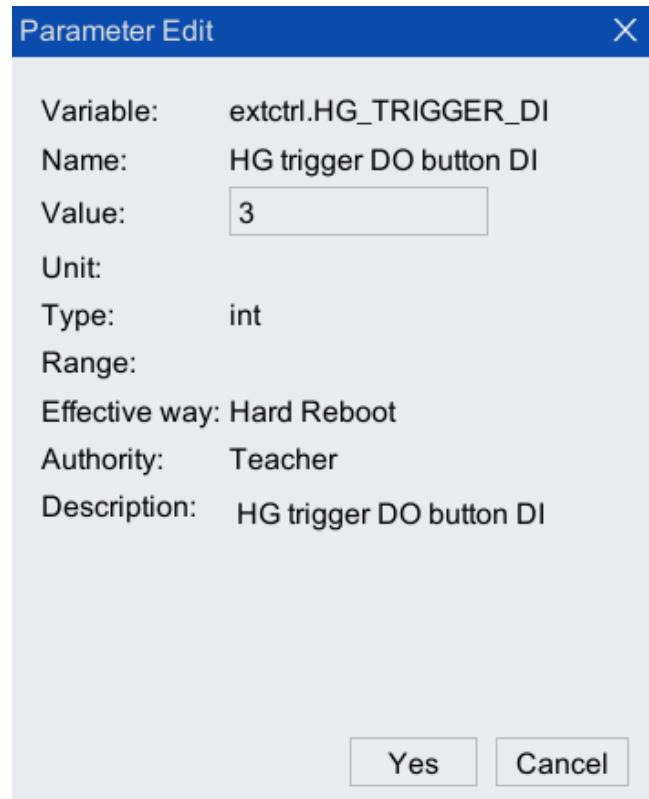

Figure 6-5 Drag teaching trigger DO button DI configuration interface
Step5. Click and select [HG_TRIGGER_DI (drag to trigger DO button DI)], click <Edit>, and the interface shown in Figure 6-5 will pop up. Configure the [Value] to the specified DI port number (for example, configure it to 3), and click <Yes>.